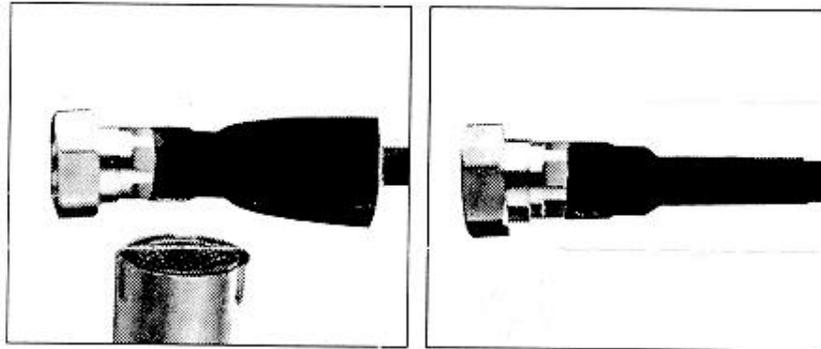

Figure C-8 Heating up heat-shrink tube
- 10) Heat up the heat-shrink tube, as shown in Figure C-8.